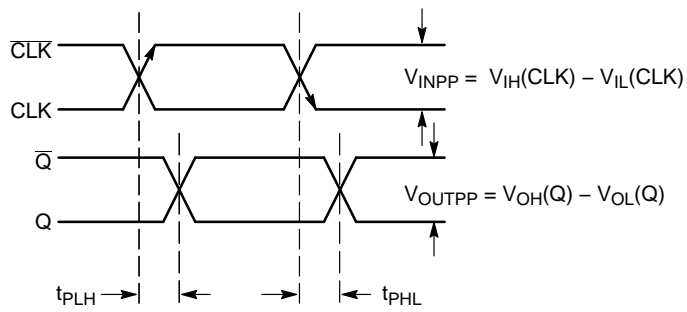

Figure 9. AC Reference Measurement
24. See Figure 9.  $t_{\text{SKEW}} = |t_{\text{PLH}} - t_{\text{PHL}}|$  for a nominal 50% Differential Clock Input Waveform.